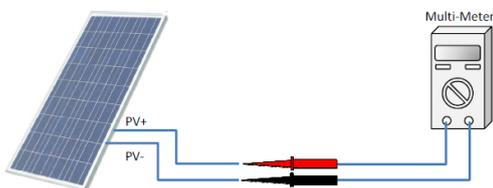

Fig. 4-7 DC Cable Polarity Detection
1. Please refer to Fig. 4-7 to confirm the DC input configuration and ensure that the maximum open circuit voltage of each photovoltaic module is lower than 1100 Vdc under any conditions (considering the negative temperature coefficient of the battery panel, special attention should be paid to the lowest ambient temperature. The open circuit voltage of the photovoltaic array is lower than 1100V);